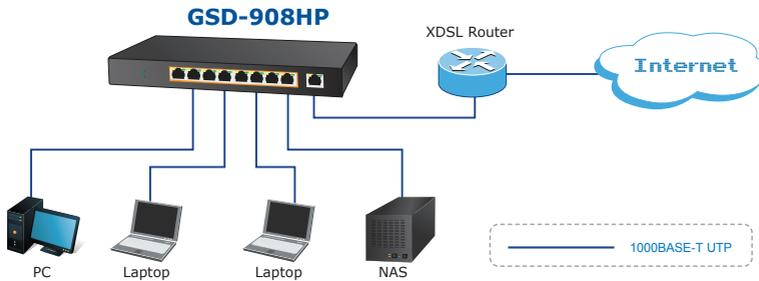

Figure 3-7: End Node or Switch Connection
Step 3: Use an Ethernet cable to connect one upstream network device (such as another switch or router) to the uplink port on the switch, as shown in Figure 3-7.